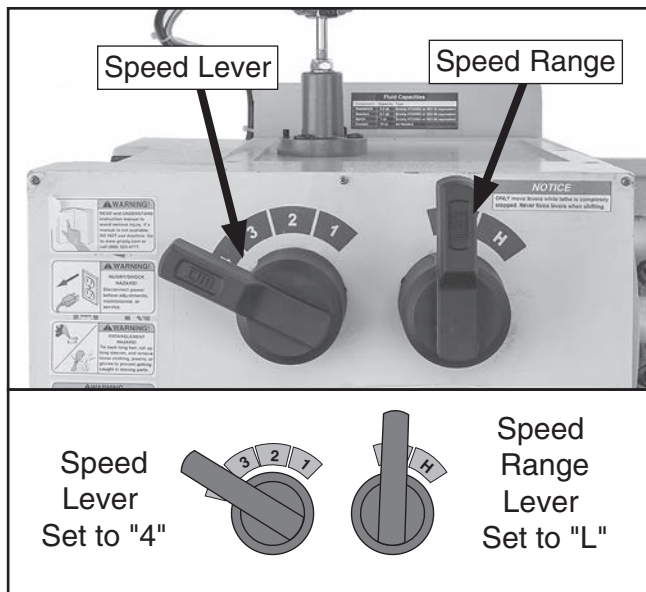

Figure 26. Spindle speed set to 70 RPM.
4. Move spindle speed and speed range levers to **L** and **4**. This will set spindle rotation at 70 RPM (see **Figure 26**).